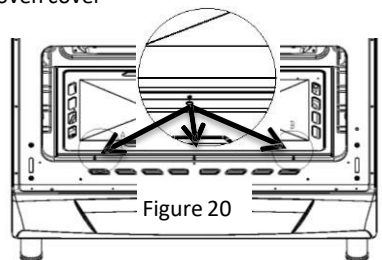

Figure 20
- Remove the screws at the marked points ( Figure 20 ).